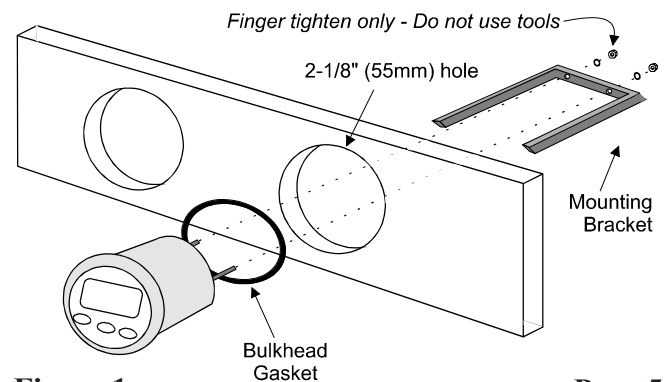

Figure 1
- Drill a 2-1/8" (55mm) hole where you want to mount the instrument (Fig. 1).